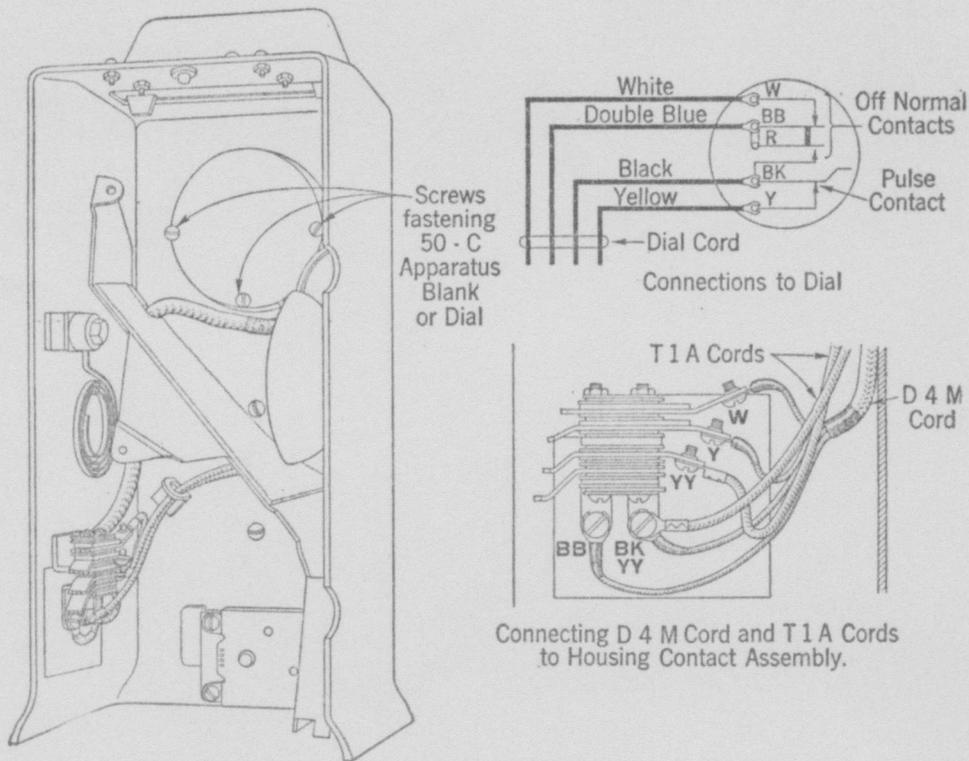

Fig. 1.
- (4) Disconnect the clip of the yellow wire at the "Y" terminal on the connecting block.
- (5) Unlace the cable form, take out the white wire and remove the spring assembly that makes contact with the upper housing contact springs.
- (6) Install a new contact spring assembly D-22990 which is furnished with the wires attached.
- (7) Solder the wires from the spring assembly to terminals as follows:
- (8) Connect yellow wire clip to "Y" terminal on the connecting block.
- (9) Place wires in the cable form and lace up the form.
- (10) Replace the circuit label.
- (11) Place an upper housing equipped with a dial and a No. 1B card holder on the coin collector. Refer to Fig. 1 and associated note for further information regarding upper housings.
- (12) Mount instruction card in the No. 1B card holder.
- (13) Make tests for operation in accordance with sections in Division C60.
- (1) Remove the upper housing.
- (2) Remove coin chute and apparatus blank from upper housing.
- (3) Remove wire connecting terminals "W" and "BB" in the upper housing and change the transmitter cord from terminal "Y" to the terminal designated "BK-YY." See Fig. 1 and associated note.
Note: The terminals designated W, Y, YY, BB and BK-YY in the above figure are designated W, Y, BK-YY, BB-YY and 5, respectively, in the upper housing for 150 type coin collectors. If the upper housing for a 150 type coin collector is used on a 50G or 50H coin collector wire to the terminals that correspond to those shown in Fig. 1.